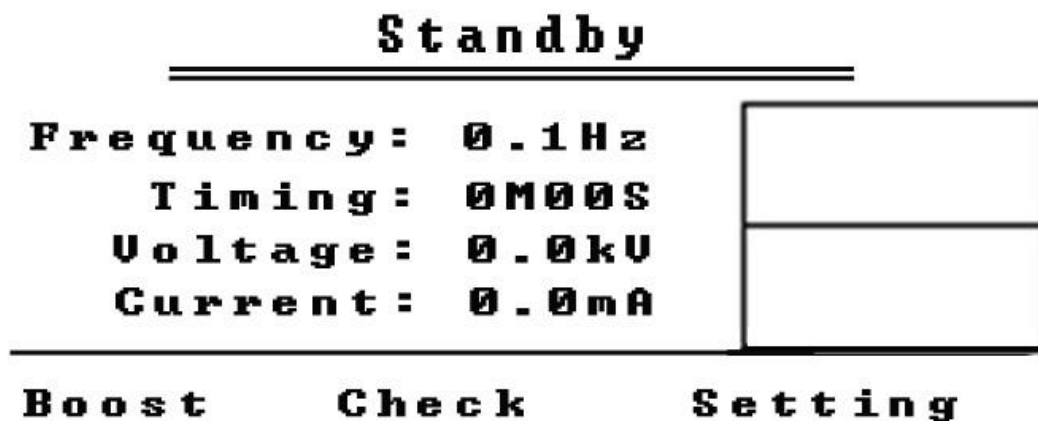

Figure 6 (Standby Interface)
(C) Click “Return” key, the instrument will enter into voltage boost standby interface as shown in figure 6.
(3) Standby Interface
Click “Boost” key as shown in Figure 6, the instrument will enter into boost test under microcomputer control according to the procedures as follows:
Data displayed on condition of timing shut-down, click key “Stop”, overvoltage and overcurrent protective shut-down will be stored by the instrument as historical data. Data of last nine times will be stored, and previous data will be automatically eliminated. Click the “Check” key as shown in Figure 6, the user can check the historical data of tests in the last nine times.